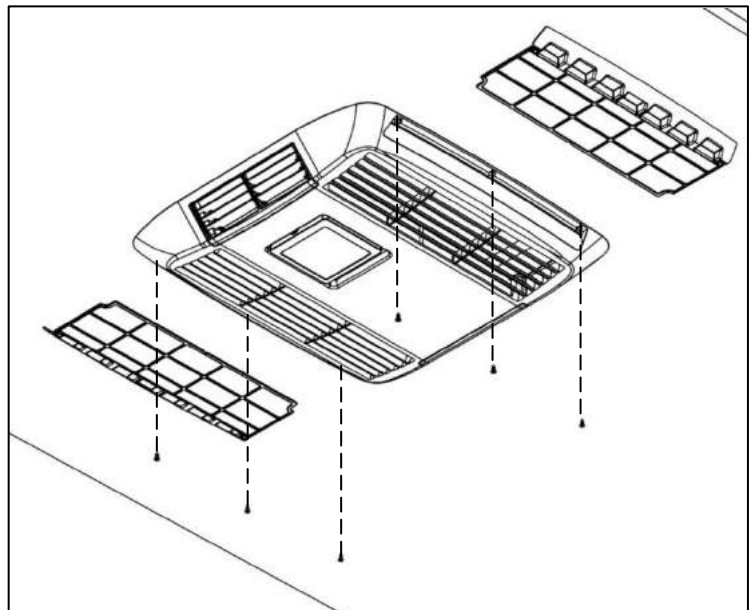

Fig 16: Remove the plenum filters and use the six self-tapping screws to secure the plenum over to the ceiling of the caravan. Be sure not to over tighten.
- Remove the filter elements by pulling them out of the plenum, and use the six self-tapping counter sunk screws to secure the covers edges to the caravan ceiling (Fig 16). In some instances a very small pilot hole may need to be drilled to guide the screws into place.